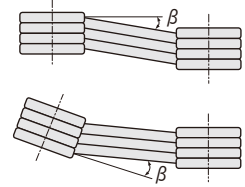

Fig. 4
(2) Use of chain, sprocket, and gear
(3) Use of V belt
- Eccentricity of parallelism between two pulleys shall be less than 20'. (Fig. 4)